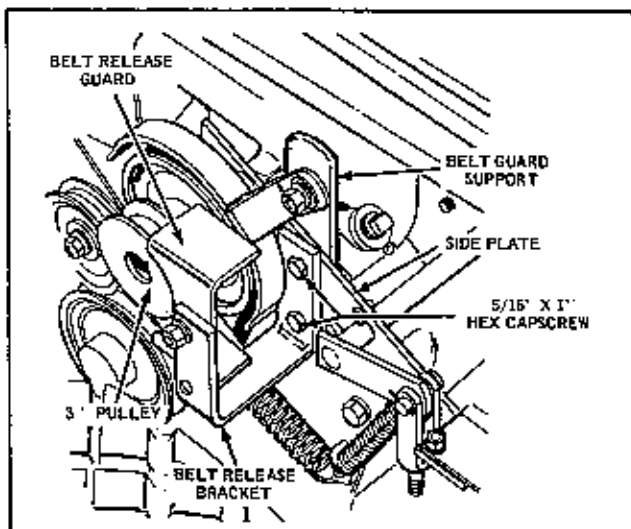

FIGURE 5
1. Fasten the belt release bracket to the outside of the side plate with the two 5/16" x 1" hex capscrews as shown in Figure 5.
2. Mount the tiller belt release guard to the belt release bracket as shown in Figure 5. The concave surface of the tiller belt release guard is to face the bevel gear shaft.
3. Mount the 3" tiller drive pulley to the bevel gear shaft with its key, as shown in Figure 5. The hub of the pulley faces in toward the tractor. Leave the set screw loose until making final alignment.